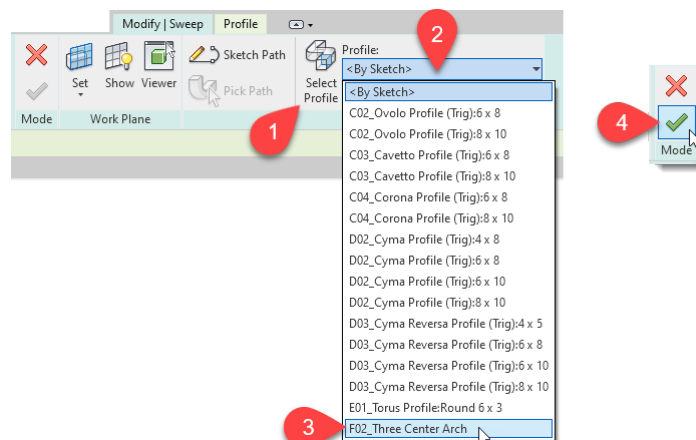

Figure 50—Choose a profile for the sweep
- ⇒ On the Modify | Sweep tab, click the Sketch Path button (item 2).
- ⇒ Draw a straight line along the Center (Left/Right) reference plane from face to face of the wall (item 3).
- ⇒ Align and lock the line to the Center (Left/Right) reference plane and align and lock each endpoint to the faces of the wall (item 4).
- ⇒ Click the Finish Edit Mode button (item 5) to complete the sketch.
2. On the Modify | Sweep tab, click the Select Profile button to active the Profile drop-down list (see item 1 in Figure 50).
- ⇒ From the Profile drop-down list, choose: **F02_Three Center Arch** (items 2 and 3).
- ⇒ Click the Finish Edit Mode button to complete the sweep (item 4).